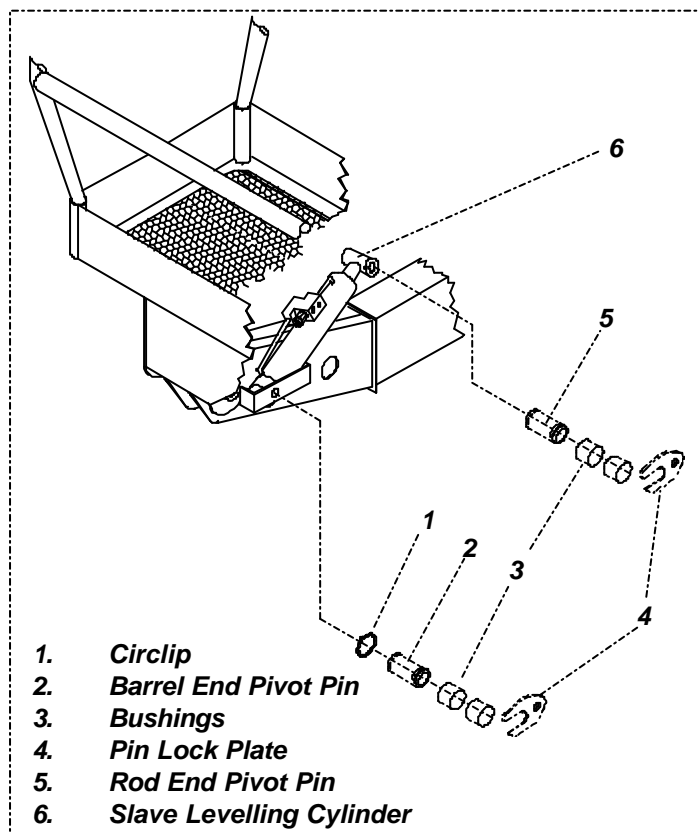

Figure 4-21: Slave Levelling Cylinder
4.19 Slave Levelling Cylinder (Figure 4-21)